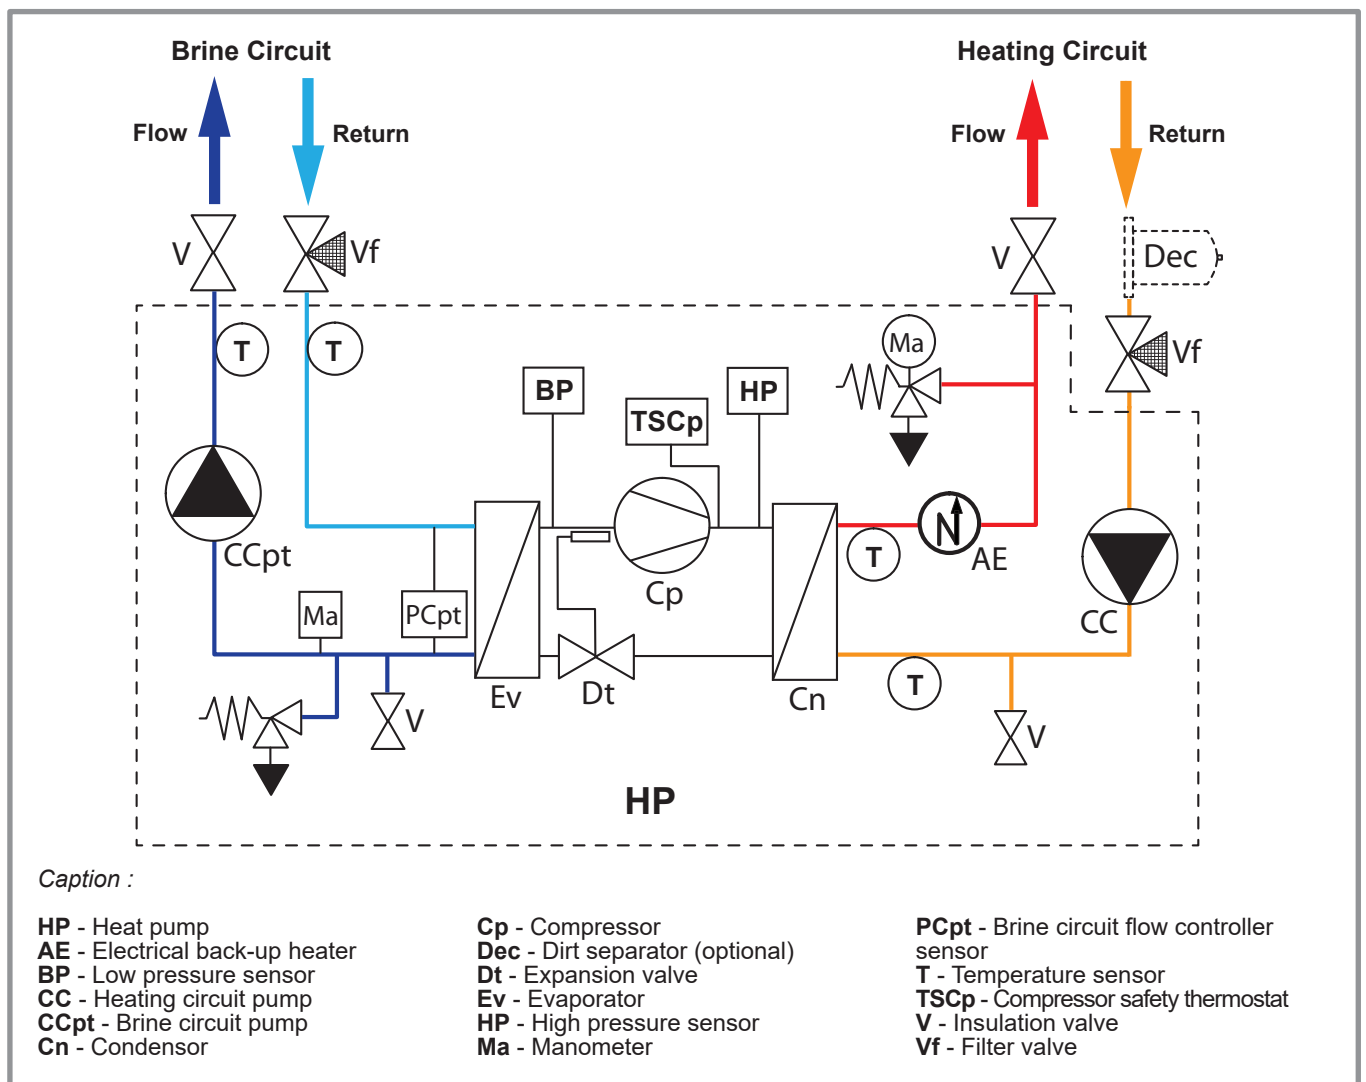

figure 7 - Principle layout of the Heat pump
- Evaporator (ref. **Ev**, figure 7, page 9) : The heat removed from the ground by the brine is released to the refrigerant. Refrigerant boiling point is lower than the brine temperature, the refrigerant moves from liquid to gaseous states.
- Compressor (ref. **Cp**, figure 7, page 9) : Pressure and temperature of the refrigerant are increased.
- Condenser (ref. **Cn**, figure 7, page 9) : The refrigerant releases its energy to the heating circuit water. The refrigerant moves from gaseous to liquid states.
- Expansion valve (ref. **Dt**, figure 7, page 9) : Pressure and temperature of the refrigerant are lowered.